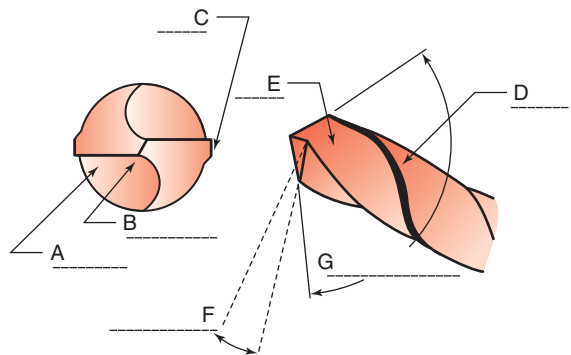

Figure 10-88 Identify the main features of a standard drill bit.
6. Identify the drill bit features A through G in Fig. 10-88. (LOs 10-1 and 10-5; and from previous discovery in Chapter 5)